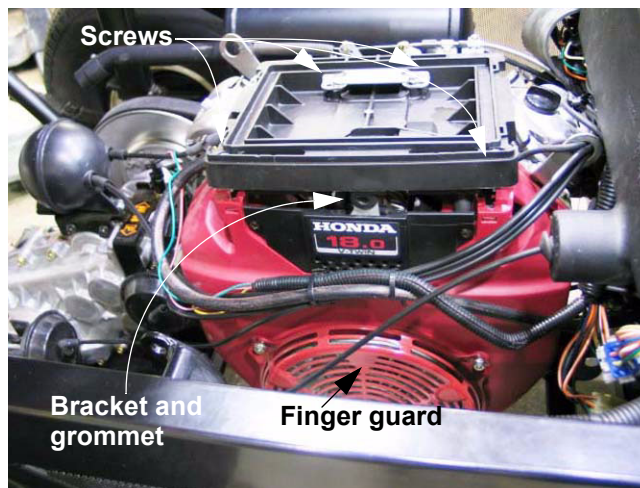

Figure 15.3
- 15.3. Remove the two screws holding the air filter base to the fan cover using an 8mm driver. Remove the two screws that hold the air filter base to the carburetor using a 10 mm driver. See Figure 15.3.